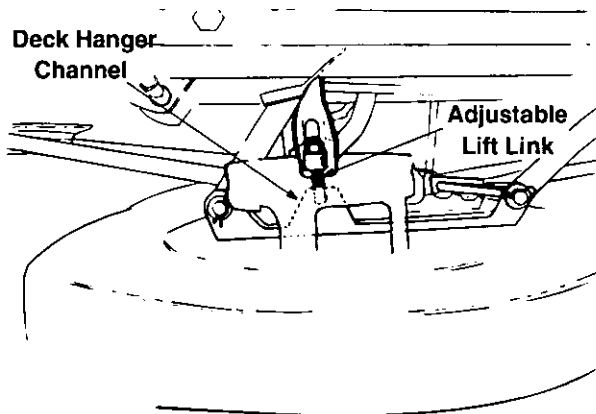

Figure 7
1. Remove the hairpin clip and flat washer from the bottom of the adjustable lift link on the left side of the deck. See Figure 7. (Hairpin clip and flat washer are on the inside of the lift link.)
2. Pull the adjustable lift link out of the deck hanger channel. See Figure 7. Turn the adjustable lift link up or down as necessary to level the deck. Usually only one or two turns are needed.